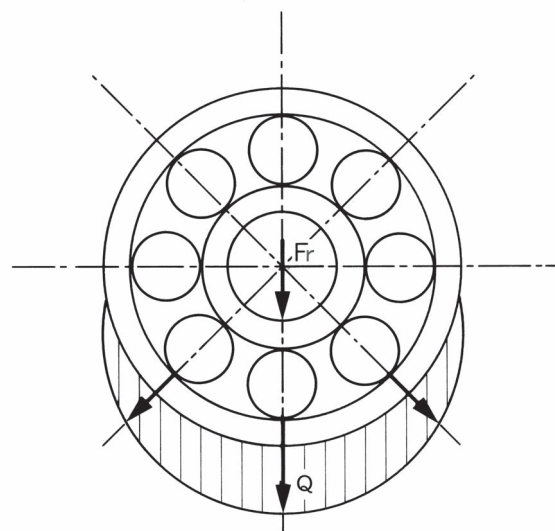

Figure 13-1
As shown in Figure 13-1, when the radial load (Fr) is applied, the maximum load (Q) applied to the ball is